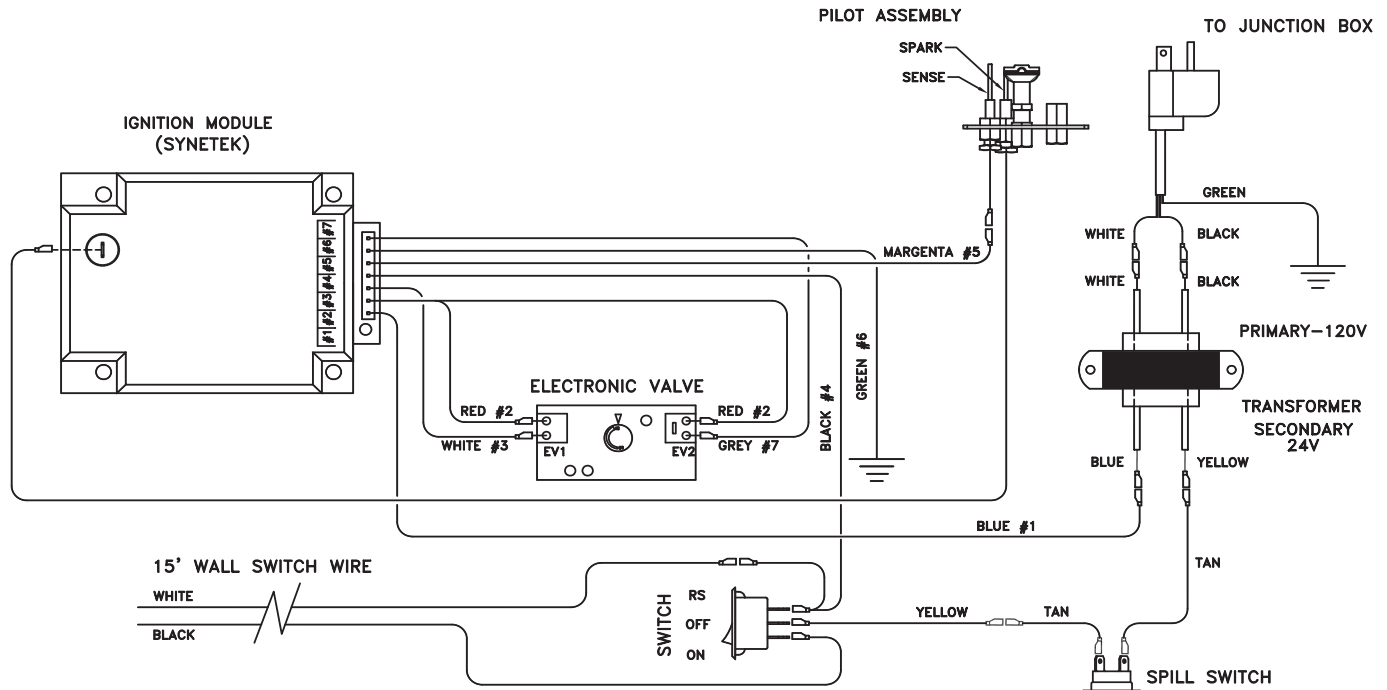

Figure 17 -
A manual shut-off valve must be installed upstream of the appliance. Union tee and plugged 1/8" NPT pressure tapping point should be installed upstream of the appliance. *Figure 17*
2. Connect the wire terminal from the remote receiver. This replaces the 15' wall switch connection to the switch. *Figure 17*